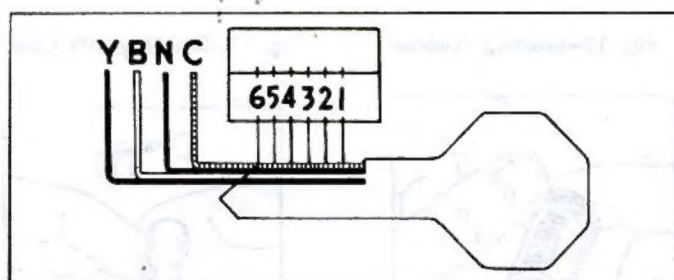

Fig. 11—Tumbler Requirement Diagram
In cases where a code book is not available, the diagram as shown in Figure 11 may be used to determine the tumblers required to assemble an uncoded lock cylinder.
1. Lay the key on the diagram (fig. 11) with the bottom of the key flush with the edge of the drawing, head and point carefully lined up.